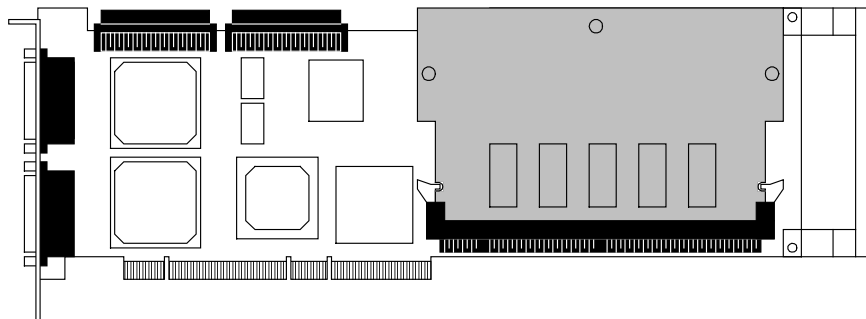

Figure 3-5
- ! Insert BDIMM board until the lever at both ends of the memory slot shut. (See Figure 3-5)